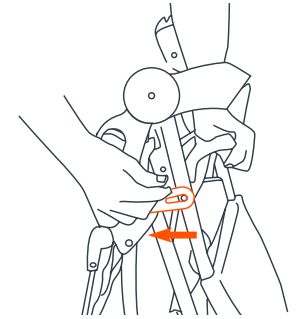

Fig. 21a
- 21) • Stand the stroller on the ground with all three wheels touching the ground. Release the folding latch, which is located on the right side (Fig. 21a).